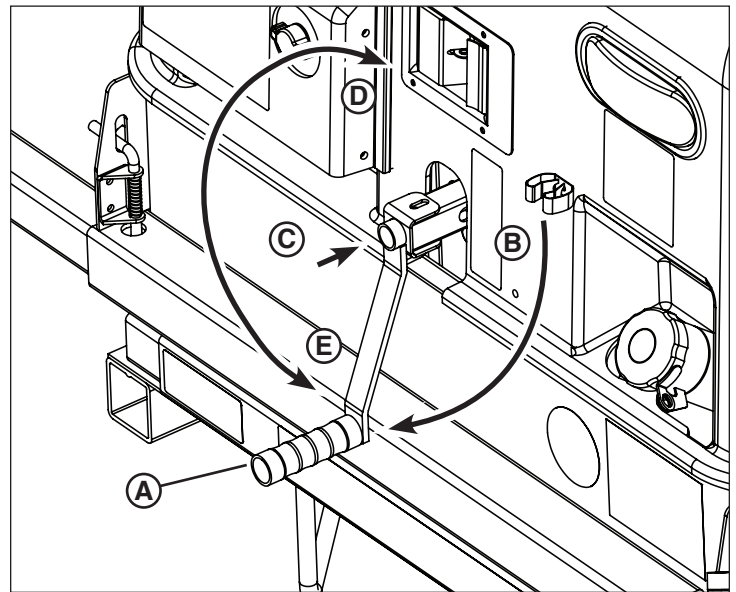

Figure 18
3. Swivel the winch handle (A, Figure 18) out from the transport position (B) to the operating position.
4. Turn the the winch handle clockwise (D, Figure 18) until the tower is fully raised. Do not overturn the handle.
4. Turn the winch handle counterclockwise (E, Figure 18) until the tower is fully lowered. Do not overturn the handle.